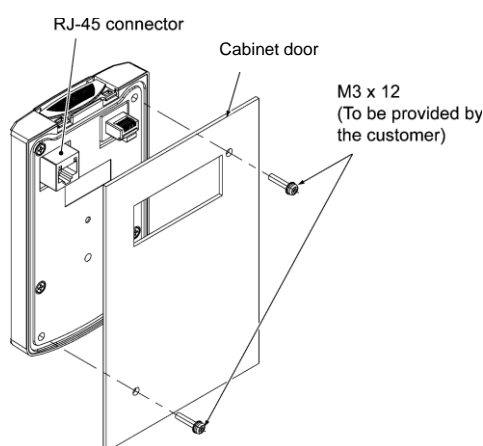

Figure 2.3-4 Mounting the Keypad
- (1) Make a cutout in the cabinet door (in which the keypad is to be mounted) as shown in [3] External dimensions of the keypad.
- (2) Mount the keypad on the cabinet door as shown in Figure 2.3-4.